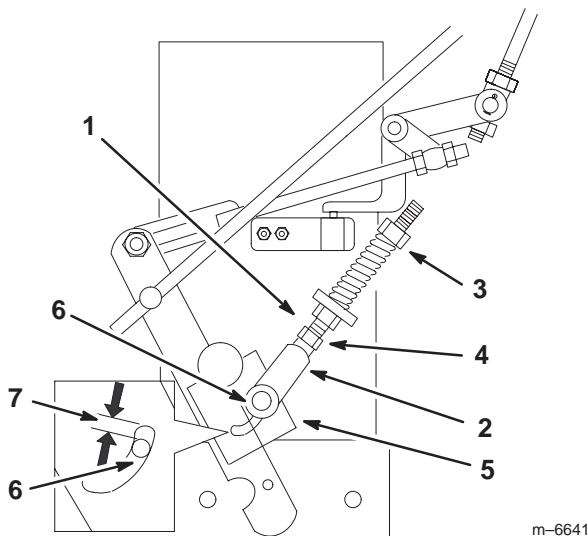

Figure 43
3. Loosen the nut against the yoke (Fig. 43).
4. Adjust the length of the neutral stud and yoke assembly so the clevis pin does not contact the back of the slot in the control arm bracket (Fig. 43).
5. Tighten the nut against the yoke (Fig. 43).
6. If the wheel turns while holding the drive lever in neutral position, the neutral stud needs to be adjusted (Fig. 43). If the wheel does not rotate, then go to step 12.
8. Adjust the adjustment stud until the respective drive wheel stops while holding the drive in neutral position (increase resistance) (Fig. 43).
9. Turn the adjusting bolt approximately 1/4 turn clockwise if the wheel is turning in reverse and turn the bolt approximately 1/4 turn counter-clockwise if the wheel is turning forward (Fig. 43).